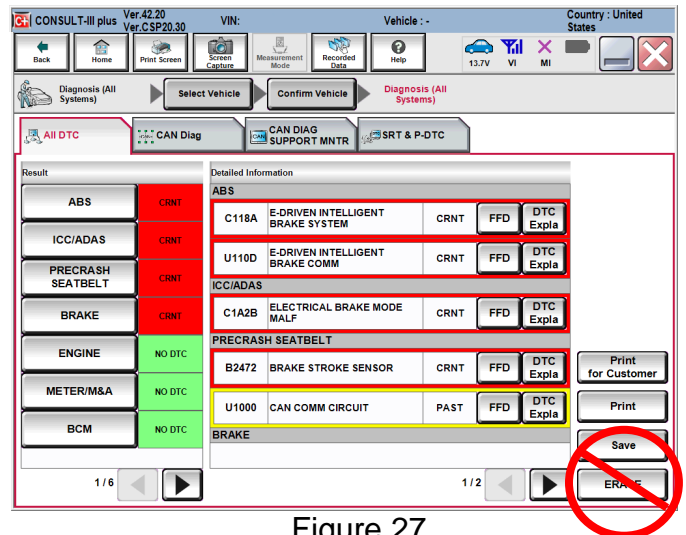

Figure 27
43. Once the screen in Figure 27 appears: